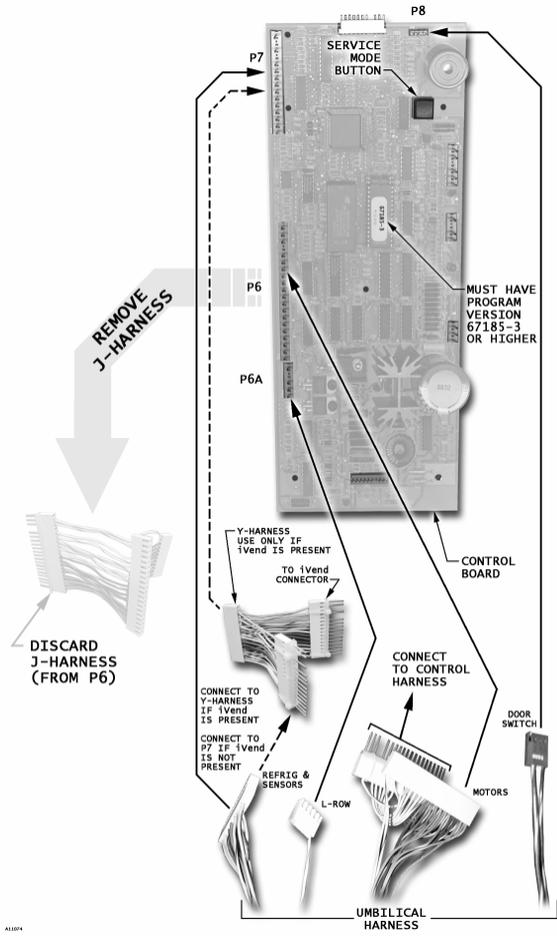

Figure 4.10. Controller Connections
6. Unplug the J-harness (P/N 4211433) from the control board terminal P6 and unplug its other end from the control harness. Discard the J-harness for now and store it for future use. Connect the control harness to the male terminals of the umbilical harness. Connect the female connector of the umbilical harness (Motor) connector to the control board terminal P6. See **Figure 4.10**.
7. Connect the umbilical harness (L Row) connector to control board terminal **P6A**. See **Figure 4.10**.
8. If iVend connector is already attached to control board terminal **P7**, then unplug the iVend™ connector from control board terminal **P7**. Install the Y-connector harness to **P7**. Connect the iVend™ harness to Y-connector harness. Connect the umbilical harness (Refrigeration) connector to other end of Y-connector harness. See **Figure 4.10**.
9. Connect the (Door Switch) connector to control board terminal **P8**. See **Figure 4.10**.